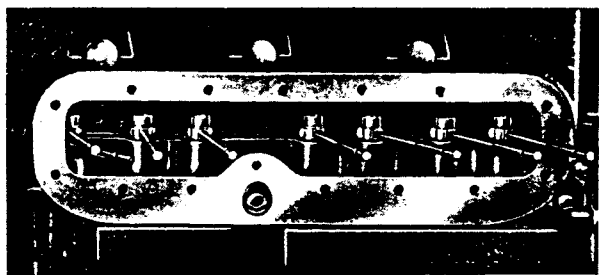

FIG. 128.
11. Remove oil filler and tappet cover assembly. To prevent the tappets dropping into the engine while the camshaft is taken out, fit clip FT.140. over each tappet as shown in Fig. 128. On the front tappet the shorter leading edge of the clip should be towards the cylinder block.